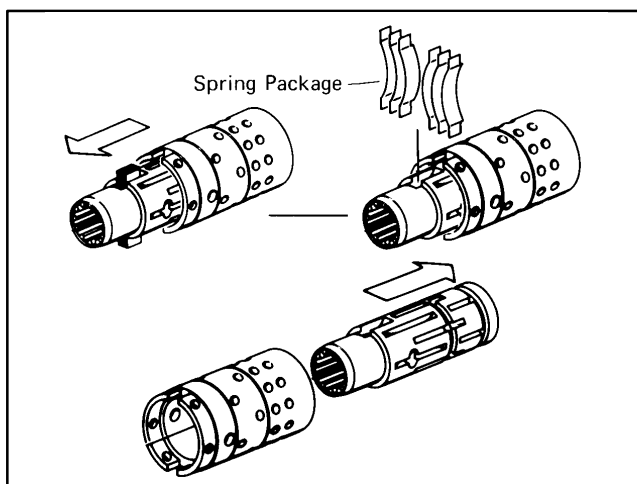

Figure 35
18. Push spool partially from control end of sleeve, then remove 6 centering springs from spool carefully by hand, see Fig. 35.
19. Push spool back through and out of sleeve, see Fig. 35. Rotate spool slowly when removing from sleeve.